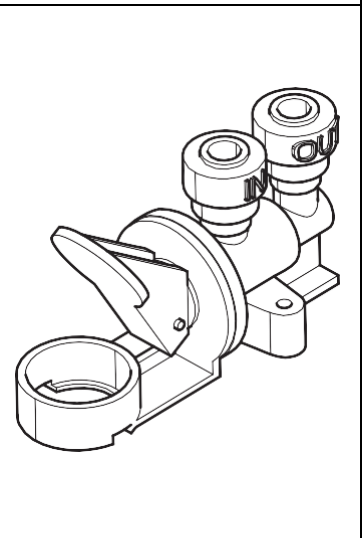

Fig 29
4. Close the arm of the valve on top of the newly fitted valve (Fig 29).